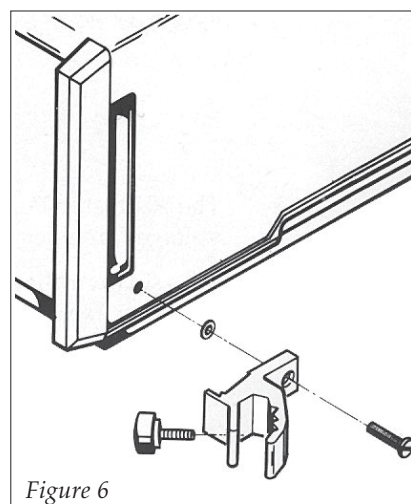

Figure 6
- Remove the side screw holding the module cover. See Figure 6.